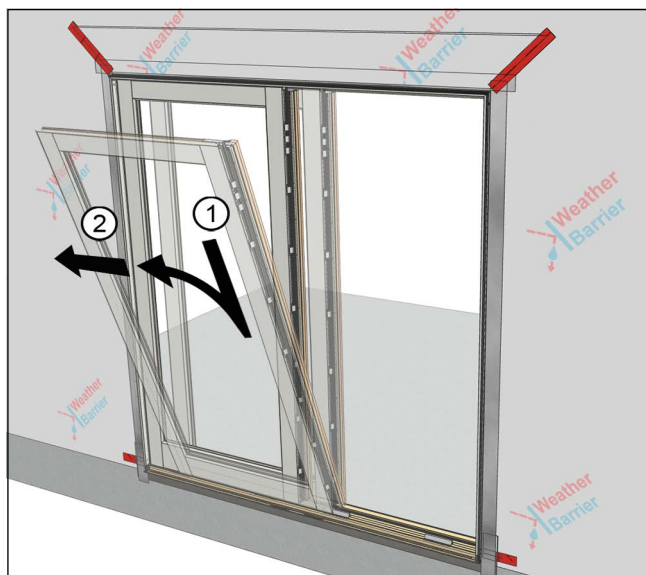

Figure 10
1. From the exterior, place the first panel (the one with the interior astragal) on the set of sill retainers. Tip the panel towards the interior and slide it towards the opposite side until the panel engages with the jamb retainers and sill retainer. See Figure 10.